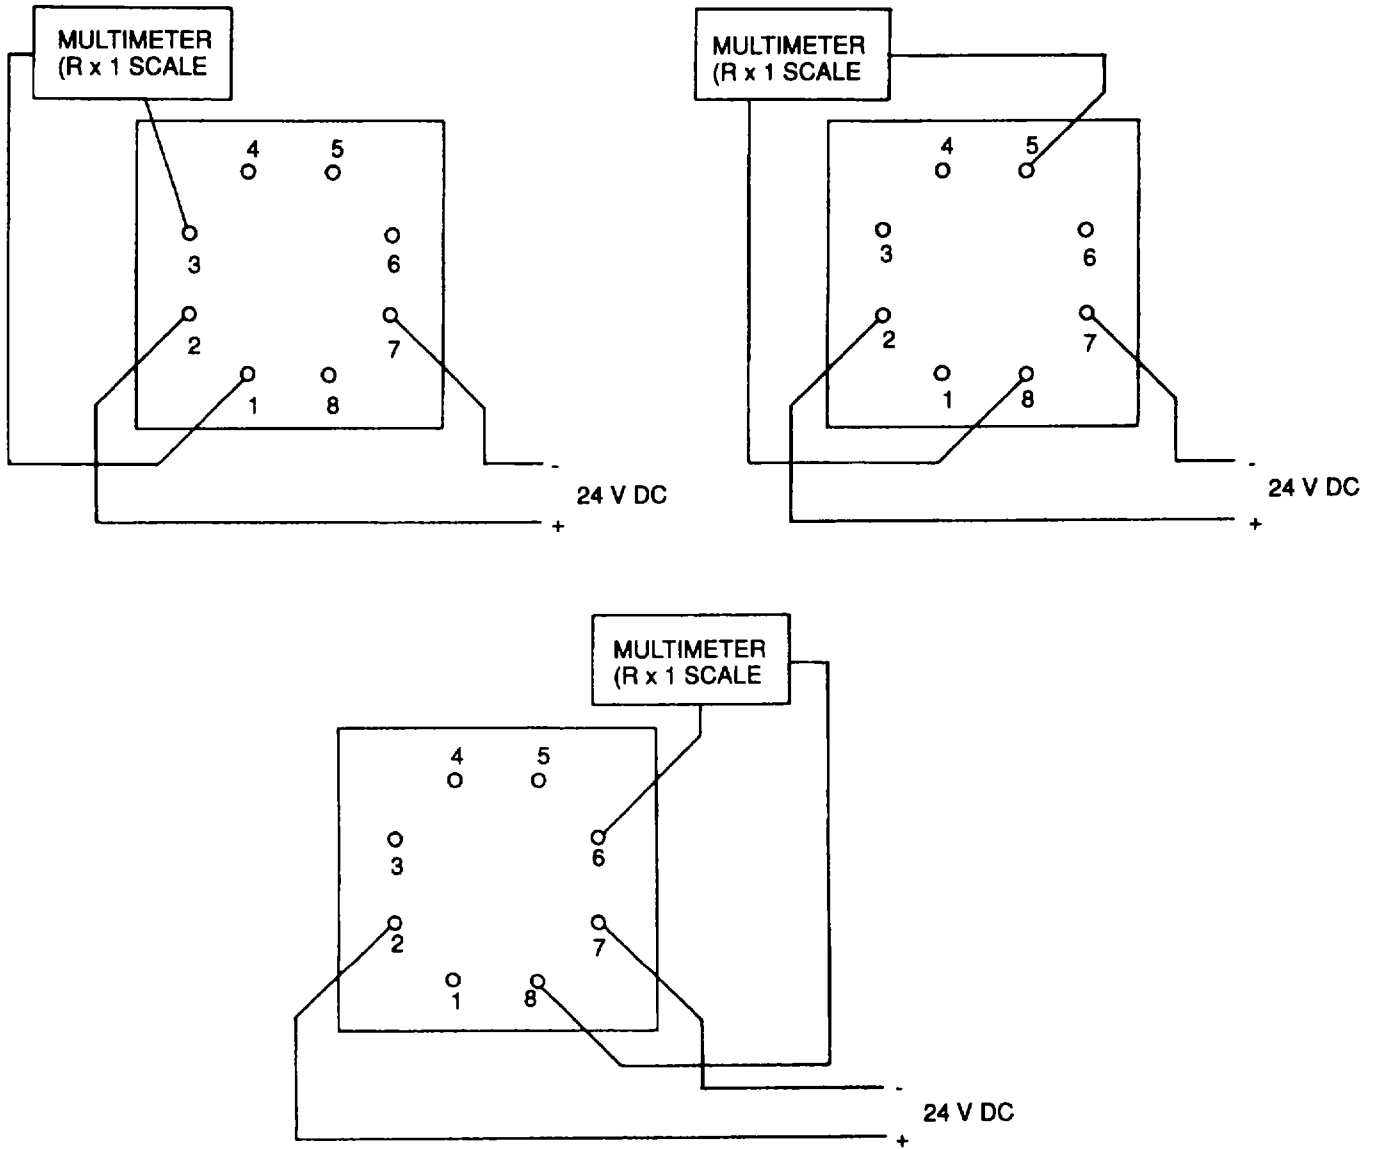

Figure 5-27. Test Setup, Time Delay (Low Fuel Shutdown) Relay K23
- (1) Inspect adjustment knob and nylon case for damage.
- (2) Verify adjustment knob is set to mid-range (35 minute) setting.
- (3) Remove in accordance with step a, above. Inspect for bent or broken pins. Check for cracks in phenolic base.
- c. Off Equipment Test (see Figure 5-27).
- (1) Connect a multimeter (RX1 scale) across relay pins 1 and 3.
- (2) Observe that multimeter reads infinity.
- (3) Connect a 24 V dc power supply across relay pins 2 (positive) and 7 (negative).
- (4) Set adjust knob to desired trip time.
- (5) Observe that multimeter first reads infinite ohms, then less than 1 ohm after the preset time has elapsed.
- (6) Disconnect 24 V dc power supply.
- (7) Observe that multimeter reads infinite ohms.
- (8) If multimeter reading is not as specified for any step, replace the relay.
- (9) Relay K23 should always be adjusted to the mid-range setting. This will produce a delay of 33 to 37 minutes between energizing and contact closure. In step (5), above, elapsed time should be 33 to 37 minutes.